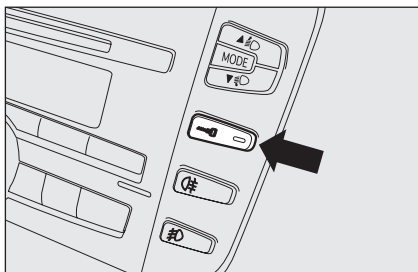

fig. 13
- ☐ button **fig. 13** for locking/unlocking the doors, placed on the central panel;